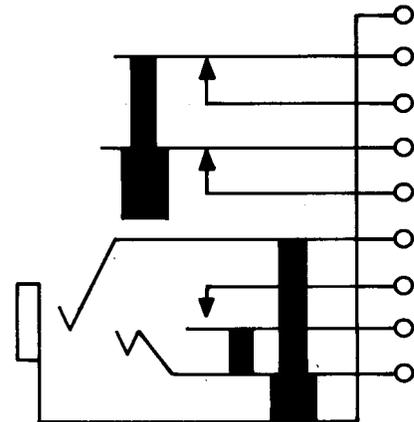

Fig. 3—454A or C Jack
**2.03 454A and C:** These single-mounted jacks (Fig. 3) are used with the 310 or similar-type plugs.